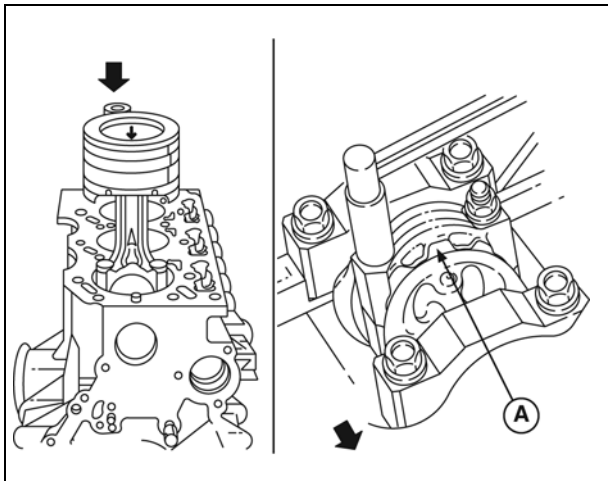

Figure 6
5. Install connecting rod cap with ID mark (**A**, Figure 6) facing front. Lubricate threads and torque nuts to values listed in Section 14 - Engine Specifications.